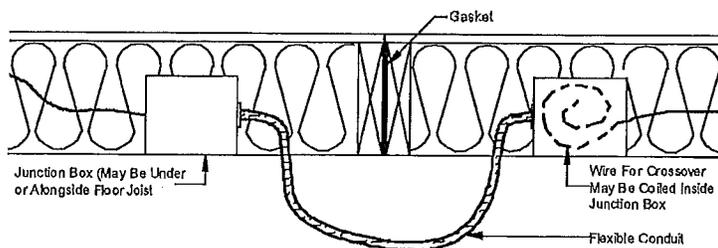

Figure 58. Under the rim joist electrical crossover connection with conduit
2. **Connect wires.** If wire is coiled inside one junction box, insert it into provided flexible conduit and pass it under the rim joists to the opposing box and make the connection as described above. If no coiled wire is provided, install provided ship-loose conduit with wire making connections in both boxes (Figure 58).